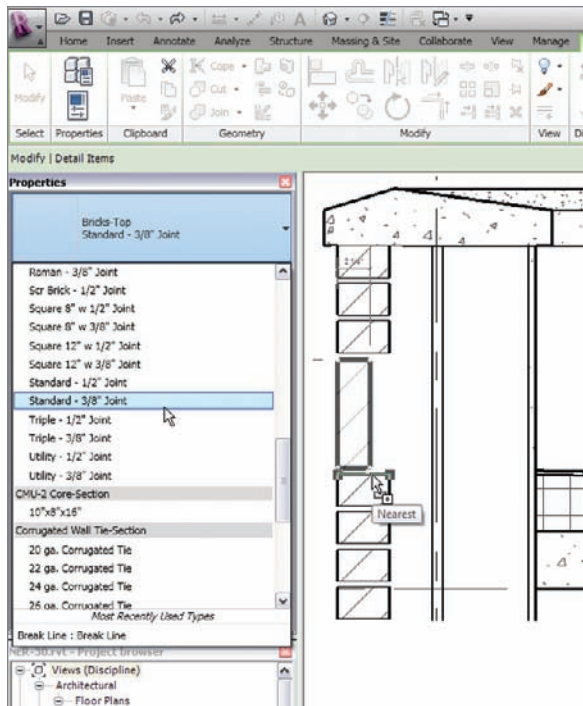

FIGURE 12.15 Placing the Bricks-Top : Standard - 3/8" joint detail component
7. When the file is loaded, select Bricks-Top : Standard - 3/8" Joint from the Type Selector, as shown in Figure 12.15.
9. Place the detail as shown in Figure 12.15. As you are placing the detail, you will notice that Revit will snap it into the proper position.